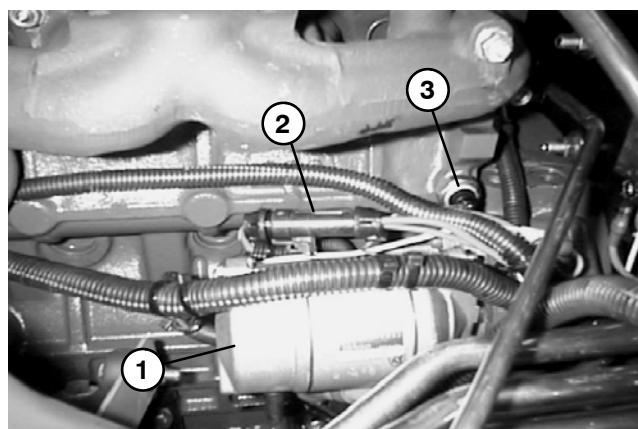

Figure 16
- F. Fusible link harness connector and low oil pressure switch located on alternator side of engine (near electric starter) (Fig. 16).